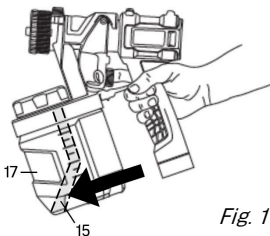

Fig. 1
1. Ensure that the pickup tube (#15) is aligned in the same direction as the canister (#17) (Fig. 1).